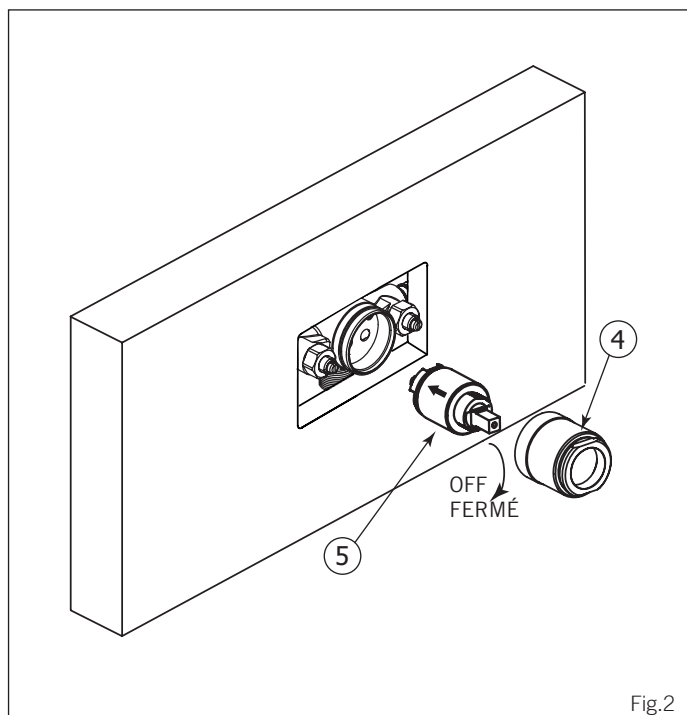

Fig.2
(Fig.2). Screw the cartridge holder (4) back into place.
(Voir Fig.2). Revisser le manchon (4) en place.